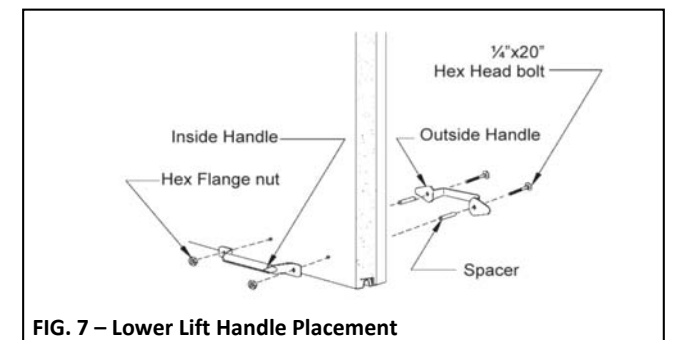

FIG. 7 – Lower Lift Handle Placement
Step 5: Attach the black ornamental handle (outside) and the steel roll grip handle (inside) to the door using two 1/4" black painted hex head bolts, and two 1/4" hex nuts (See Fig. 7).